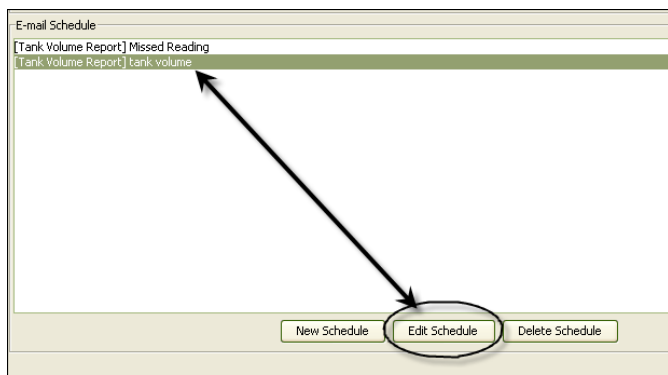

FIG. 145
1. Highlight the e-mail event you want to modify and click the Edit Schedule button shown in FIG. 145.